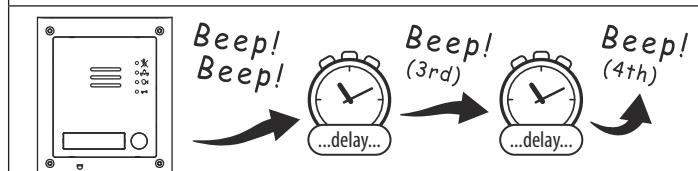

Fig. 60
3. Power up the GSM module, 2 short beeps will be heard followed by a brief delay, then a single beep (3rd beep), followed by another brief delay and then finally another single beep (4th beep), as shown in **Fig.60**.